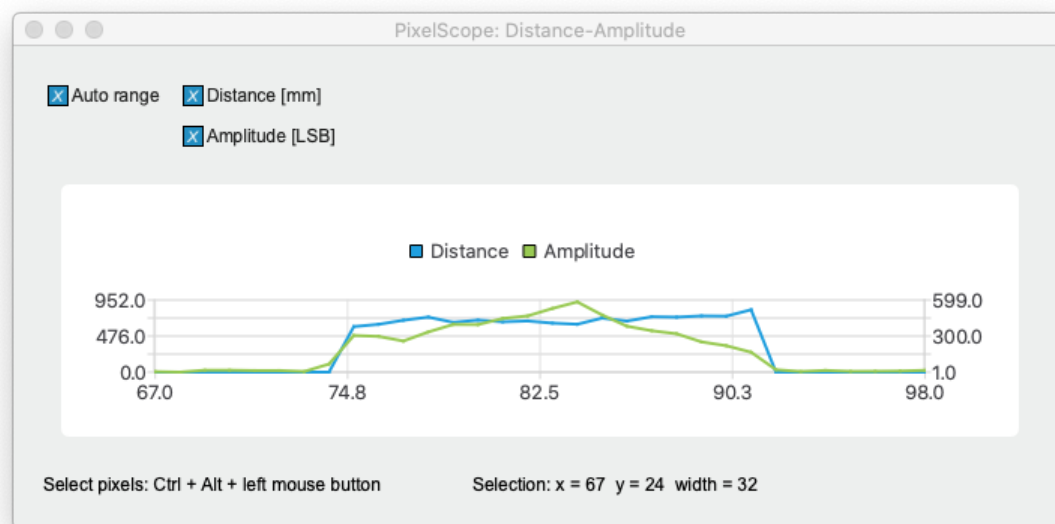

Figure 19: PixelScope window
- "Pixelscope" shows the distance and amplitude values of a row of pixels (Figure 19).